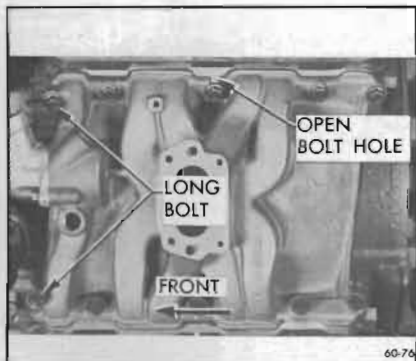

Figure 60-76—Installation of Intake Manifold
17. Install manifold attaching bolt in open bolt hole as shown in Figure 60-76. Open bolt hole is held to close tolerances and the bolt in
18. Install remaining manifold to cylinder head bolts. Longer bolts belong at forward location. Torque bolts alternately and evenly to 45-55 lb. ft. See Figure 60-76.